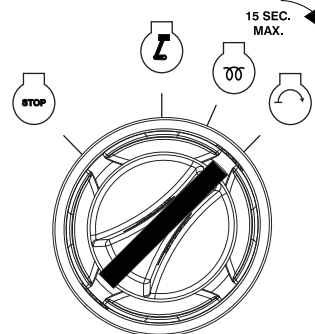

Figure 3-8. Crank Engine
3. See **Figure 3-8**. Turn the key to the right START position and hold it until the engine cranks and starts running.